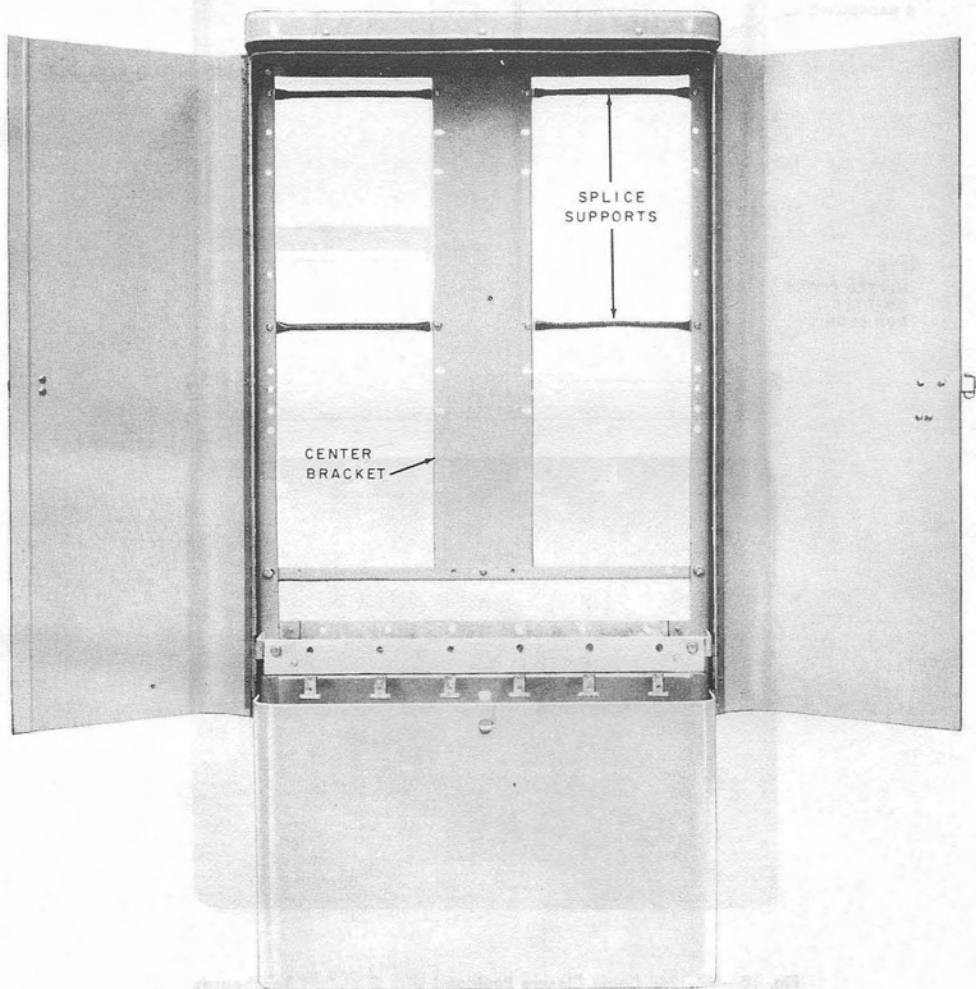
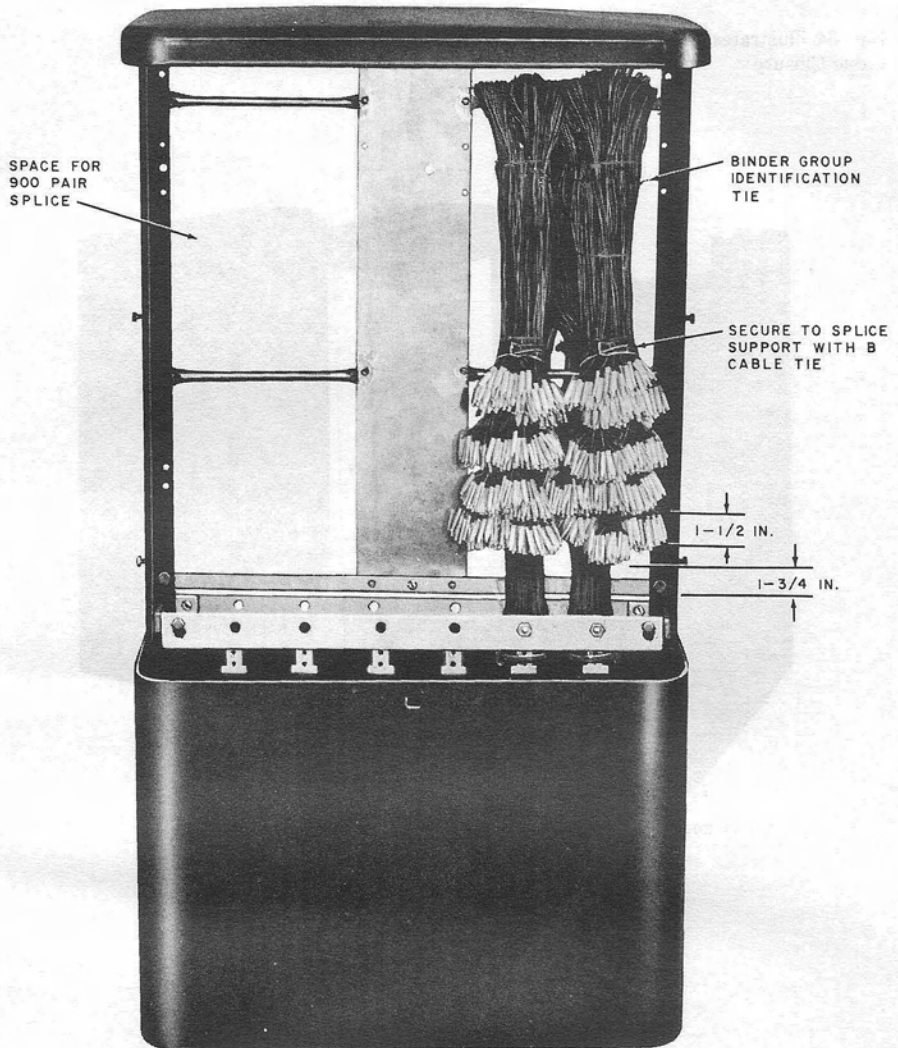

Fig. 17—UP-1248 Cable Closure Equipped with Center Bracket and Splice Supports
Fig. 33—UP-1248 Cable Closure—Straight Splice
4.03 When equipped with two splice supports and center bracket (Fig. 17), it can be used on new construction to contain an 1800-pair splice.
8.05 Where the UP-1248 Cable Closure is used to enclose a straight, bridge, or load splice, two splice supports are installed as illustrated in Fig. 17. The pairs are spliced with B Wire Connectors as outlined in Section 632-205-201. Fig. 33 illustrates a straight splice.